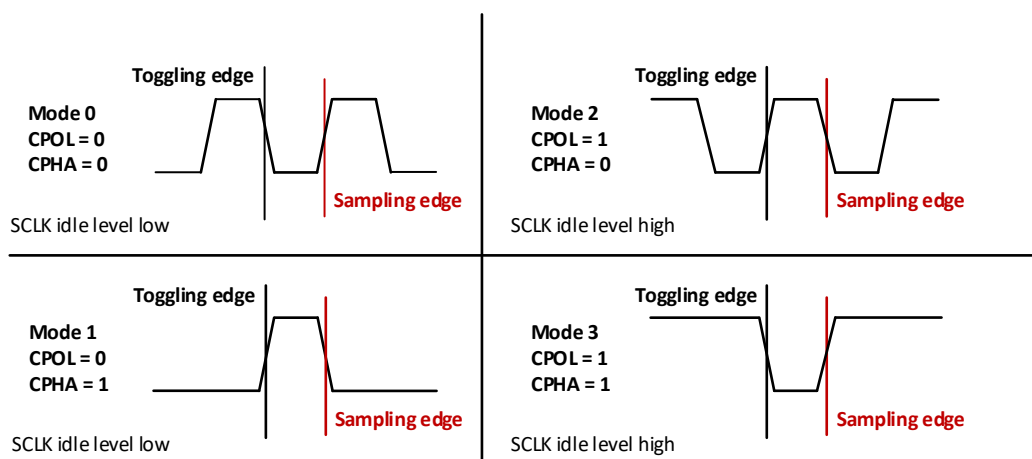

**Figure 7-9. CS\_N Deassert Mode**
- Configurable option to control CS\_N deassert between byte transfers. The controller supports a special transmission format called CS\_N deassert mode. Figure 7-9 illustrates the waveform in this transmission format.